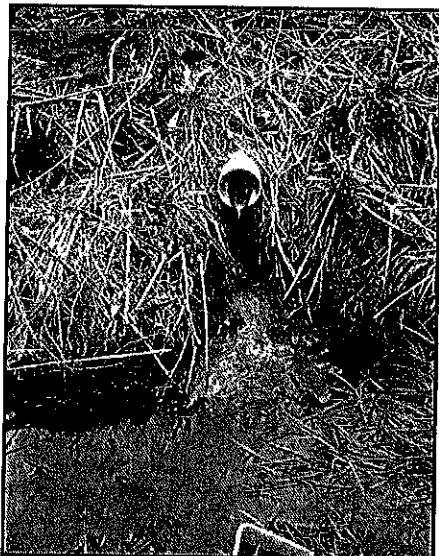

Figure 2: Direct Discharge from a Straight Pipe
*Straight pipe:* This term refers to relatively small diameter pipes that intentionally bypass the sanitary connection or septic drain fields, producing a direct discharge into open channels or streams as shown in Figure 2.